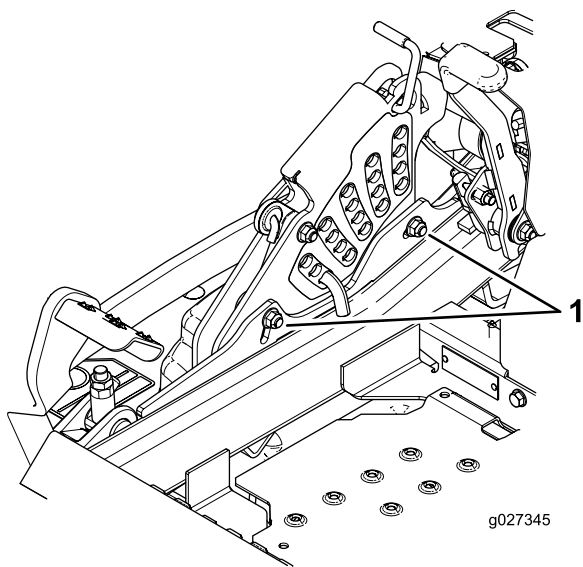

Figure 127
11. To adjust the single-point system, loosen the 2 bolts at the bottom of the height-of-cut plate (Figure 127).
13. Tighten the 2 bolts at the bottom of the height-of-cut plate (Figure 127).